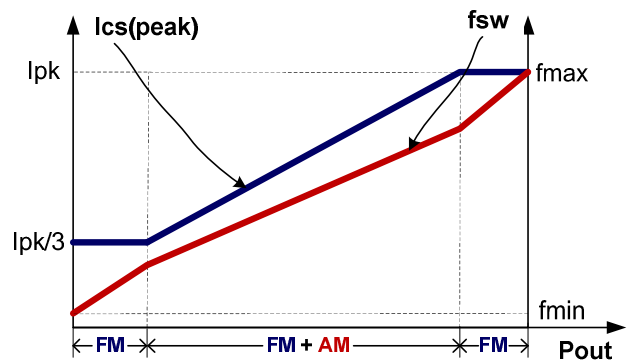

Fig.4
To meet the tight requirement of averaged system efficiency and no load power consumption, a hybrid of frequency modulation (FM) and amplitude modulation (AM) is adopted in DP25136 which is shown in the Fig 4.